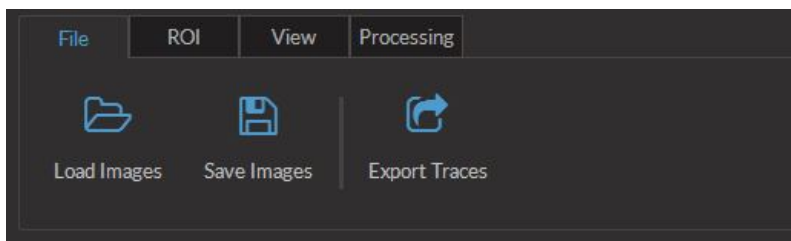

Figure 4.2: File Tab
1. The **File tab** (Fig. 4.2) is used to save/load data.